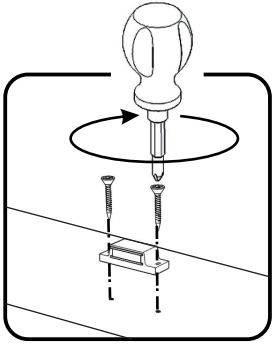

Figure 2
Attach Magnet to Rail (H) with Wood Screws for Magnet into pre-drilled holes. (See Figure 2)